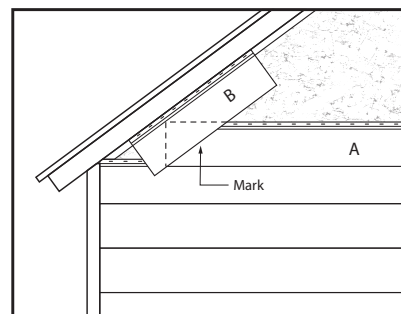

Figure 5.1.6
- a. Establish the roof pitch/slope angle by engaging a scrap piece (A), pressed into the upper J-Channel following the soffit/roof line angle. Using a second scrap piece (B) held parallel to the soffit J-Channel and over the first scrap piece (A), mark the slope onto scrap piece (A). (Figure 5.1.6)
- b. Cut the scrap piece (A) along the marked line to use as a jig in cutting all finished pieces to be installed on the gable end.